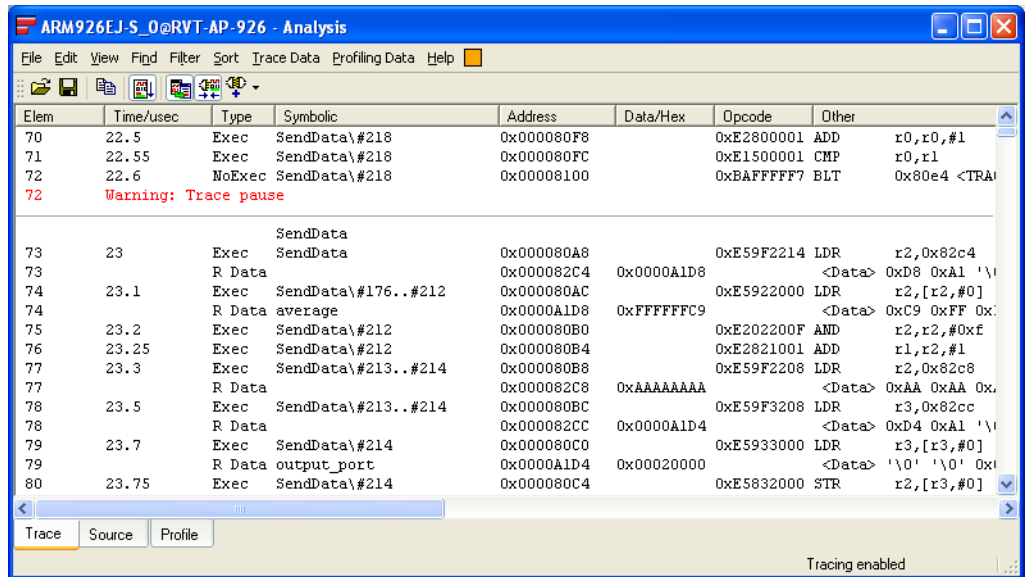

Figure 10-56 Captured trace showing discontinuity between runs of SendData()
- Scroll down though the captured trace until the next function boundary is visible. Figure 10-56 on page 10-51 shows an example. The trace shows the discontinuity between different runs of SendData(), identified by the red Warning: Trace Pause message.